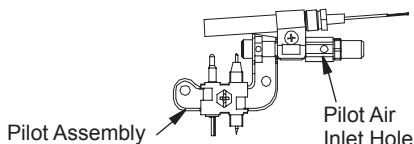

Figure 71 - Pilot Inlet Air Hole (Your pilot may vary from pilot shown)
2. Inspect burner, pilot and primary air inlet holes on injector holder for dust and dirt (see Figure 71, page 32).